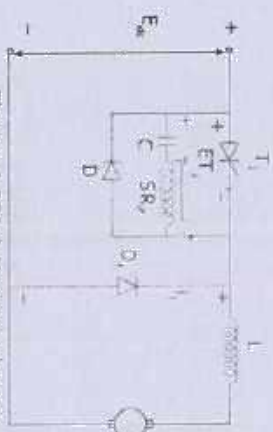

Figure 4.22(a) Morgan's chopper
**Mode 0:** (Charging of the capacitor). When the S.C.R  $T_1$  is in OFF state, the capacitor 'C' will charge to the supply voltage ( $E_{dc}$ ). The charging path will be  $E_{dc} - C - SR - L - \text{Load} - E_{dc}$ , as shown in Fig. 4.22(a). The inductance offered by the S.R. is very low. When the capacitor charges to  $E_{dc}$ , the charging will be stopped. The saturable reactor is placed in positive saturation condition.